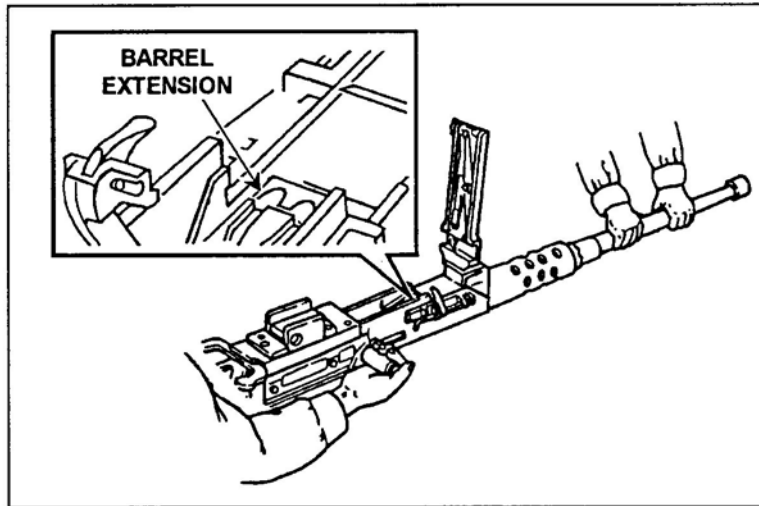

Figure 3. Attaching Barrel
- c. Screw the barrel fully into the barrel extension; then unscrew the barrel two notches (clicks) (Figure 3).